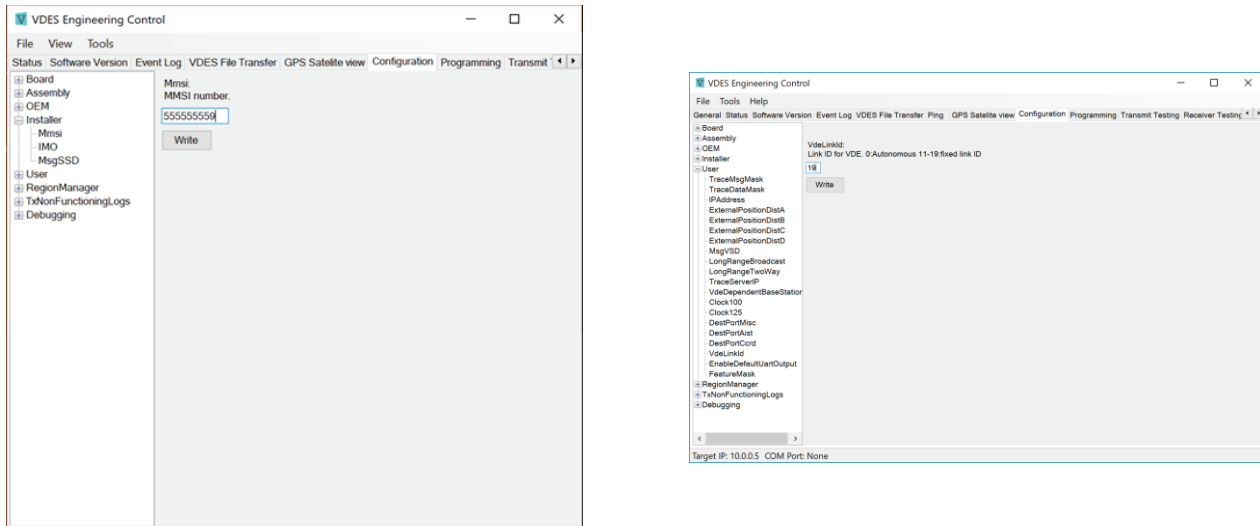

Figure 7 Setting the MMSI (left) and the Link_ID (right) for file transfers
- b. In the left-hand tree view, select **Installer -> MMSI**. Type in the desired MMSI in the edit box on the right-hand side and click **Write**. "Data written successfully" should be displayed. See Figure 7
14. On both units open the **Configuration** tab and select **User -> vdeLinkId** – see the Notes below. Type 19 in the text box and click **Write**. See Figure 7